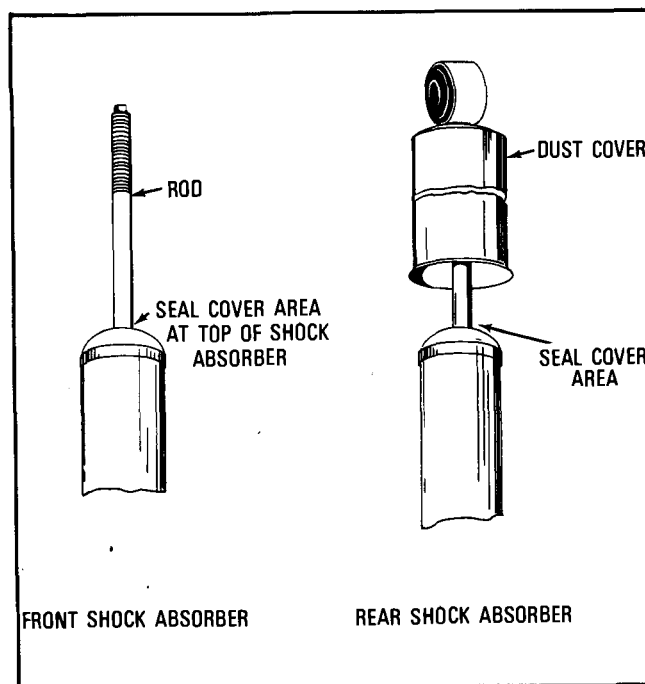

Fig. 3-1 Seal Cover Area of Shock
- (b) Inspect shocks for leaks in seal cover area. Shock fluid is a very thin hydraulic fluid and has a characteristic odor and dark brown tint. See Fig. 3-1.